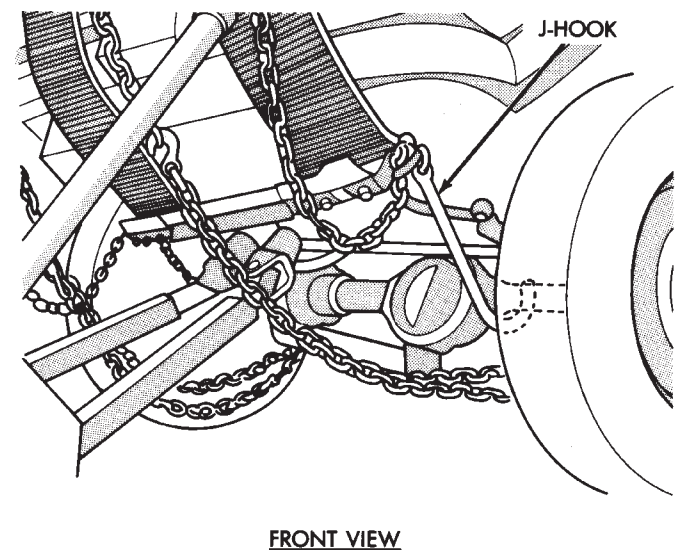

Fig. 6 Sling-Type, Front-End Towing (XJ Front View)
- (1) Raise the rear of the vehicle off the ground and install tow dollies under rear wheels.
- (2) Attach a J-hook to the disabled vehicle at the left side of front the axle.
- (3) Position the sling crossbar close to the J-hook and below the front bumper (Fig. 6).
- (4) Secure a chain to the right side of vehicle by placing it over the axle shaft tube and attaching it to a structural member